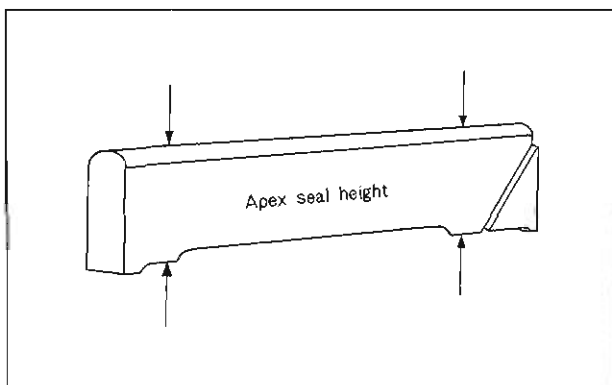

Fig. 1-46 Apex seal height
3. Measure the height of the apex seal with a micrometer at two positions shown in Fig. 1-46. Replace if the height is less than **7.0 mm (0.275 in)**.